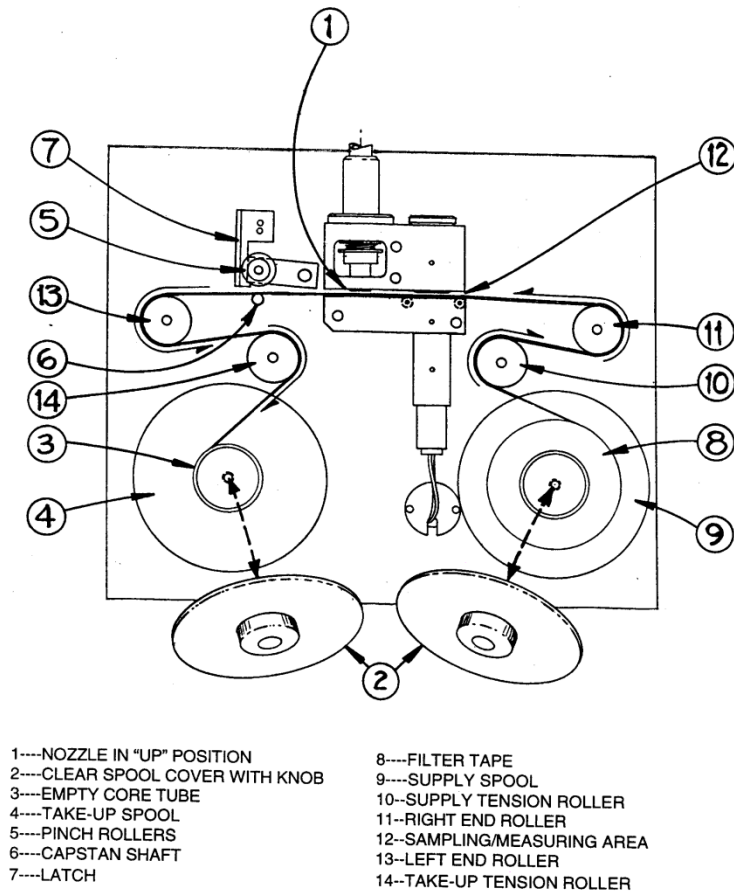

Figure 5 Filter Tape Loading Diagram
4. Lift the "pinch" roller (See Figure 5) until the latch automatically locks it in the up position. Carefully slide the filter tape out of position. This may require unwinding a very small amount of filter tape from the roll to provide some slack in the tape without causing damage to the tape;
11. Carefully place the filter tape back into position under the nozzle, advance the filter tape approximately six (6) inches to provide a clean filter spot and rewind the filter tape to remove any slack. (Refer to Section 2.37.2.2.6 regarding filter tape replacement procedures);
tape should never be “flipped over” or re-used! This will result in measurement problems. Loading a roll of filter tape is a simple matter using the following steps and referring to Figure 5 below:
2. Lift the rubber pinch roller assembly and latch it in the UP position (see Numbers 5 and 7 in Figure 5). Unscrew and remove the two clear plastic spool covers.
4. Load the new roll of filter tape onto the **right** (supply) reel, and route the tape through the transport assembly as shown in Figure 5 below. Attach the loose end of the filter tape to the empty core tube with cellophane tape or equivalent.